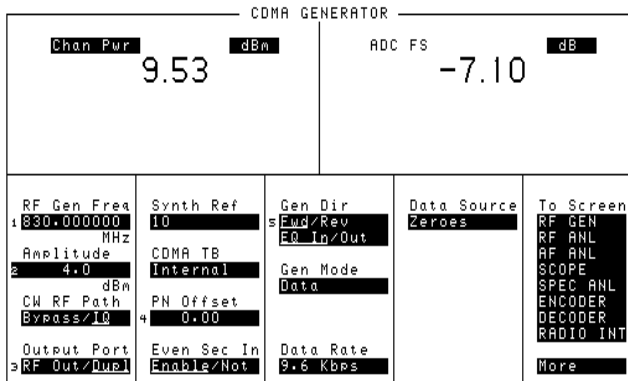

Figure 15. CDMA GENERATOR Screen on the Agilent 8921A Option 600 Test Set
6. Select **CDMA GEN** from the **To Screen** menu. The CDMA GENERATOR screen should appear (See Figure 15).